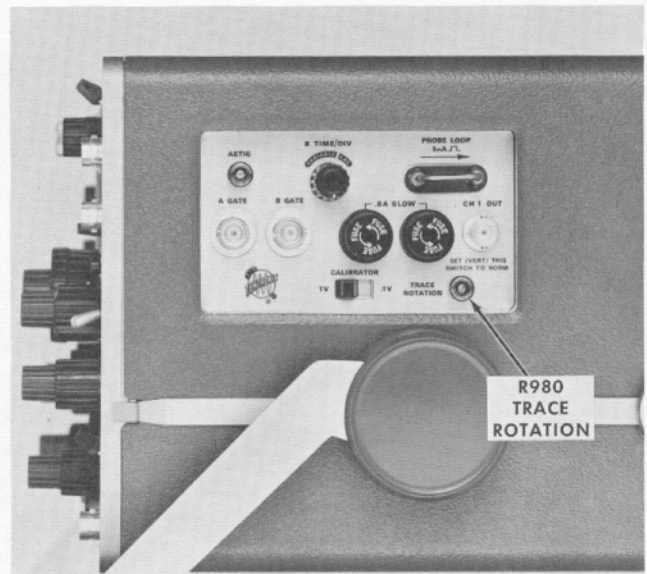

Fig. 6-13. Location of Trace Rotation adjustment (side panel).
8. Adjust Trace Alignment ❶
- c. Adjust—TRACE ROTATION adjustment, R980 (see Fig. 6-13), so the trace is parallel to the horizontal graticule lines.